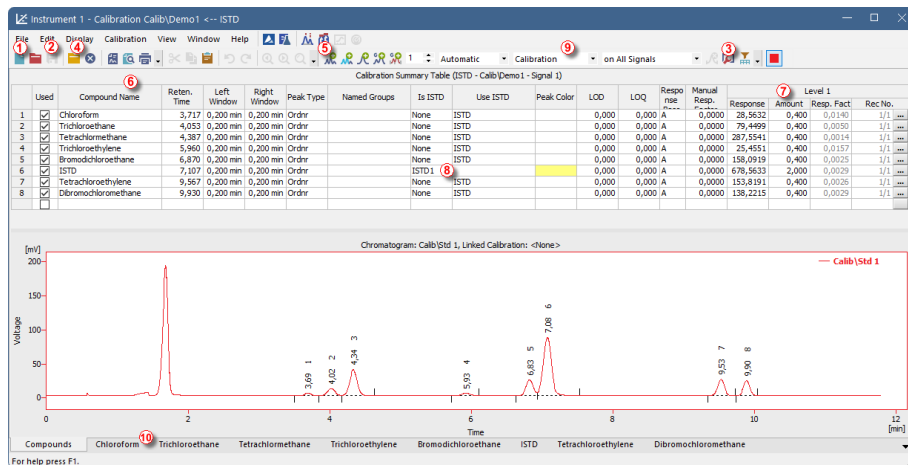

Fig. 17: The Calibration window - loaded standard
- Use the **Open Standard** icon (yellow) (4) to open the **STD 1.PRM** data file. The lower part of the **Calibration** window now displays the chromatogram of the standard.
- Use the **Add All** icon (blue) (5) to add all identified peaks to the Calibration Summary Table. The Table appears in the **Calibration** window, ready to be completed as shown on **Fig. 17** on pg. 25.
- As demonstrated in the Calibration Summary Table and the Chromatogram, individual peaks are now identified according to their retention times only. To label the peaks, click and edit the fields in the **Compound Name** column (6) to the names shown on **Fig. 17** on pg. 25.